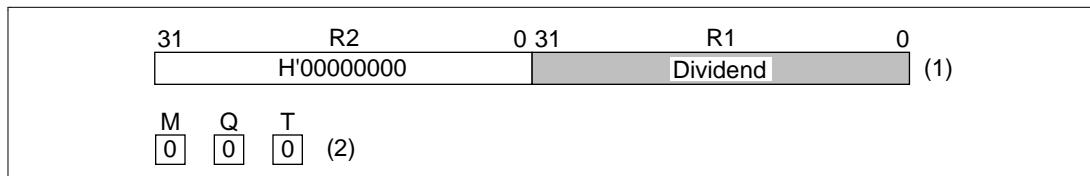

Figure 3.48 Initial Setting (DIVU32R)
- Takes R2's upper 32 bits and zero-extends the dividend to 64 bits (figure 3.48 (1)).
- Sets the M, Q, and T bits used in one-step division to unsigned division values. (figure 3.48 (2)).